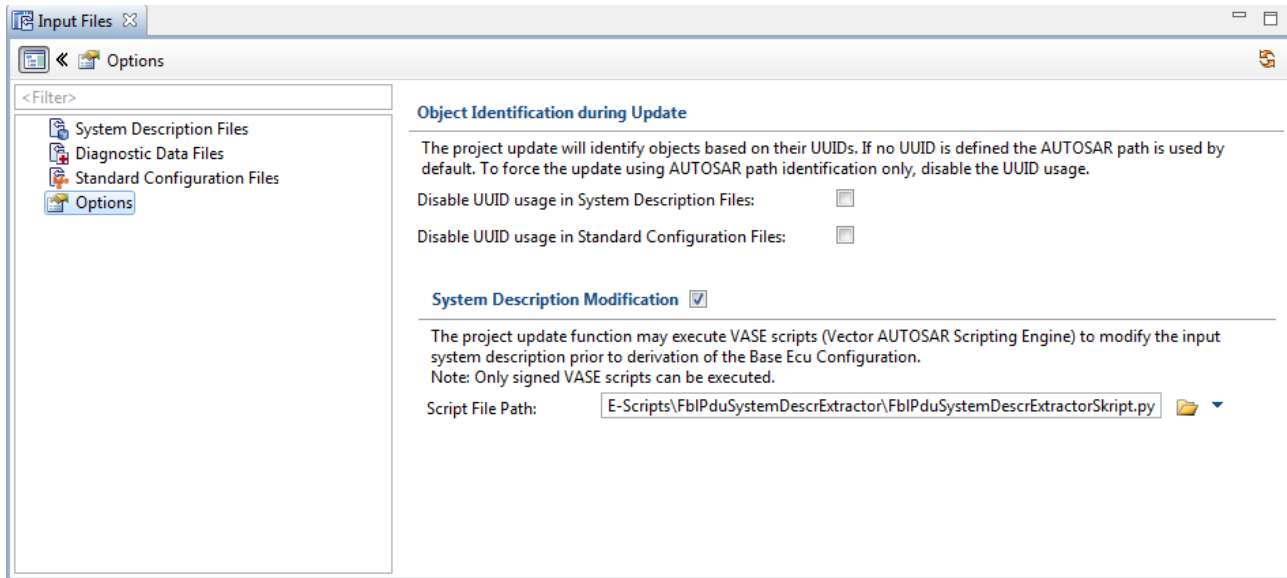

Figure 4-2 VASE Script Configuration
2. If the system description file includes application messages which are not needed, activate the FbI PDU system description extractor script. This script removes the unneeded messages from the bootloader configuration (see Figure 4-2 VASE Script Configuration). The script can be found in the directory `.\DaVinciConfigurator\VASE-Scripts\FbIPduSystemDescrExtractor` of your delivery.